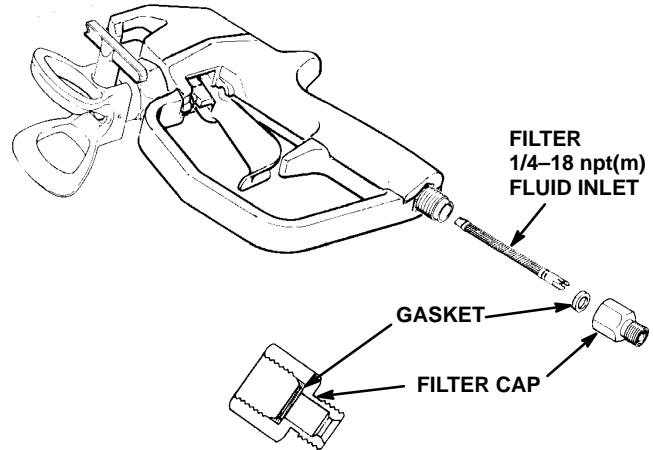

Fig 1
1. This gun includes an inlet filter suitable for latex paint. Contact your Graco distributor to order a stain/enamel filter. To install, screw out the filter cap. Push the filter into the fluid tube. Reinstall the gasket with the lips facing into the gun. Reinstall the cap and tighten with a wrench. See Fig 1.